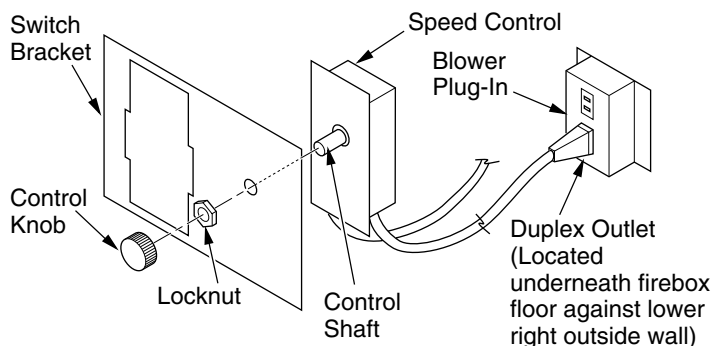

Figure 26 - Attaching Speed Control to Firebox
5. Mount speed control box to switch bracket by placing the plastic control shaft forward through the round opening in the switch bracket (see Figure 26).
5. Mount the speed control box against the mounting plate provided in the lower fireplace cavity by placing the plastic control shaft forward through the round hole (see Figure 26, page 16).
6. While supporting speed control, secure control shaft with lock nut by pushing and turning lock nut with pliers clockwise until it is tight against mounting plate. Place control knob provided on shaft (see Figure 26, page 16).